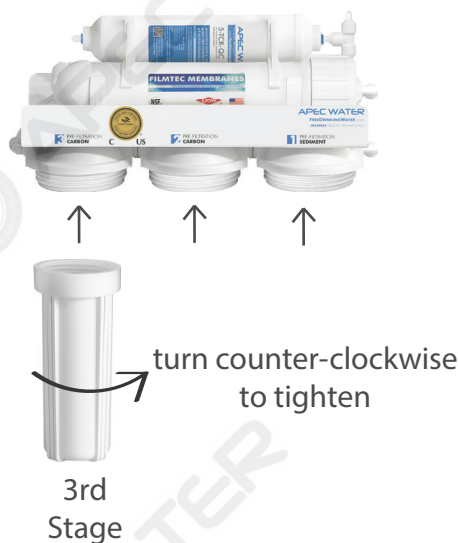

Fig. 2
2. **See Fig. 2** Starting from the 3rd stage housing on the left, hand twist the housing onto the main system turning counterclockwise, one by one, for all 3 housings.